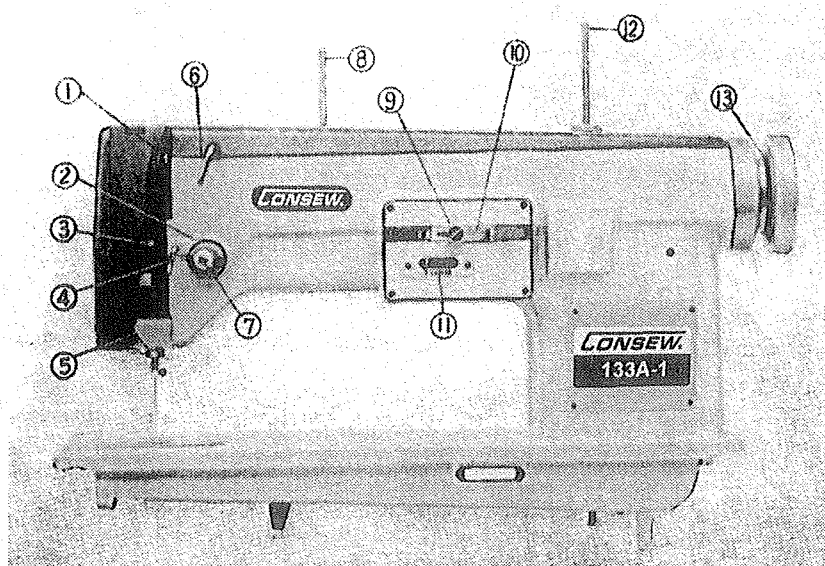
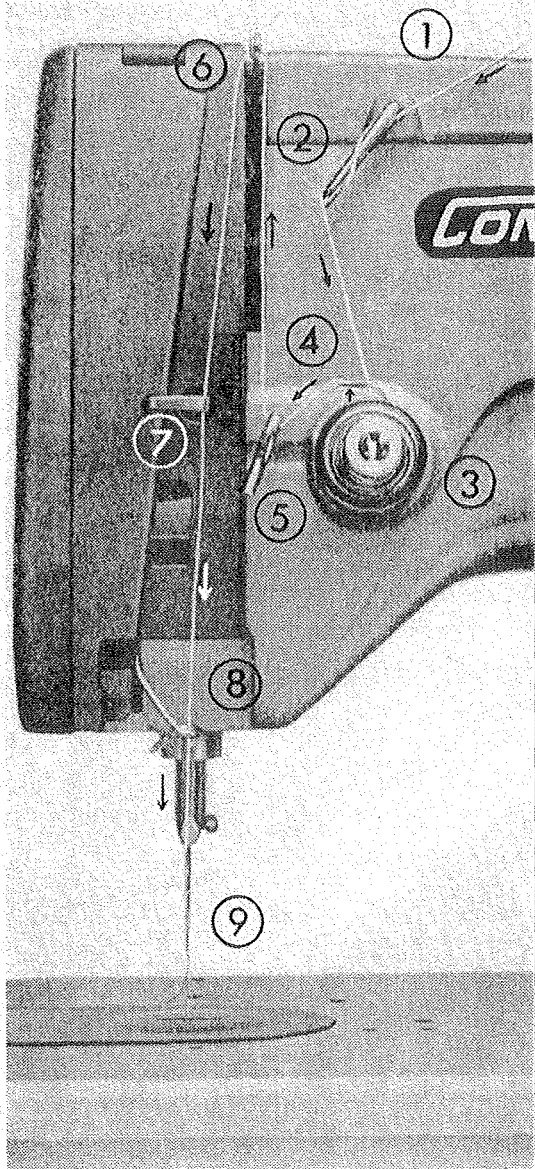

Fig. 2
Fig. 8
Refer to Fig. 2 for the names of parts of this machine
To pass the needle thread, follow the numerical order as shown in Fig. 8. Start from the needle thread guide pin ①, (not shown in Fig. 8), to the needle ⑨ in order. (Refer to Fig. 2 for complete view)
- ② Three-hole thread eyelet
- ③ Tension disc
- ④ Take-up spring
- ⑤ Thread take-up guide
- ⑥ Thread take-up
- ⑦ Frame thread guide, upper
- ⑧ Frame thread guide, lower
- ⑨ Needle